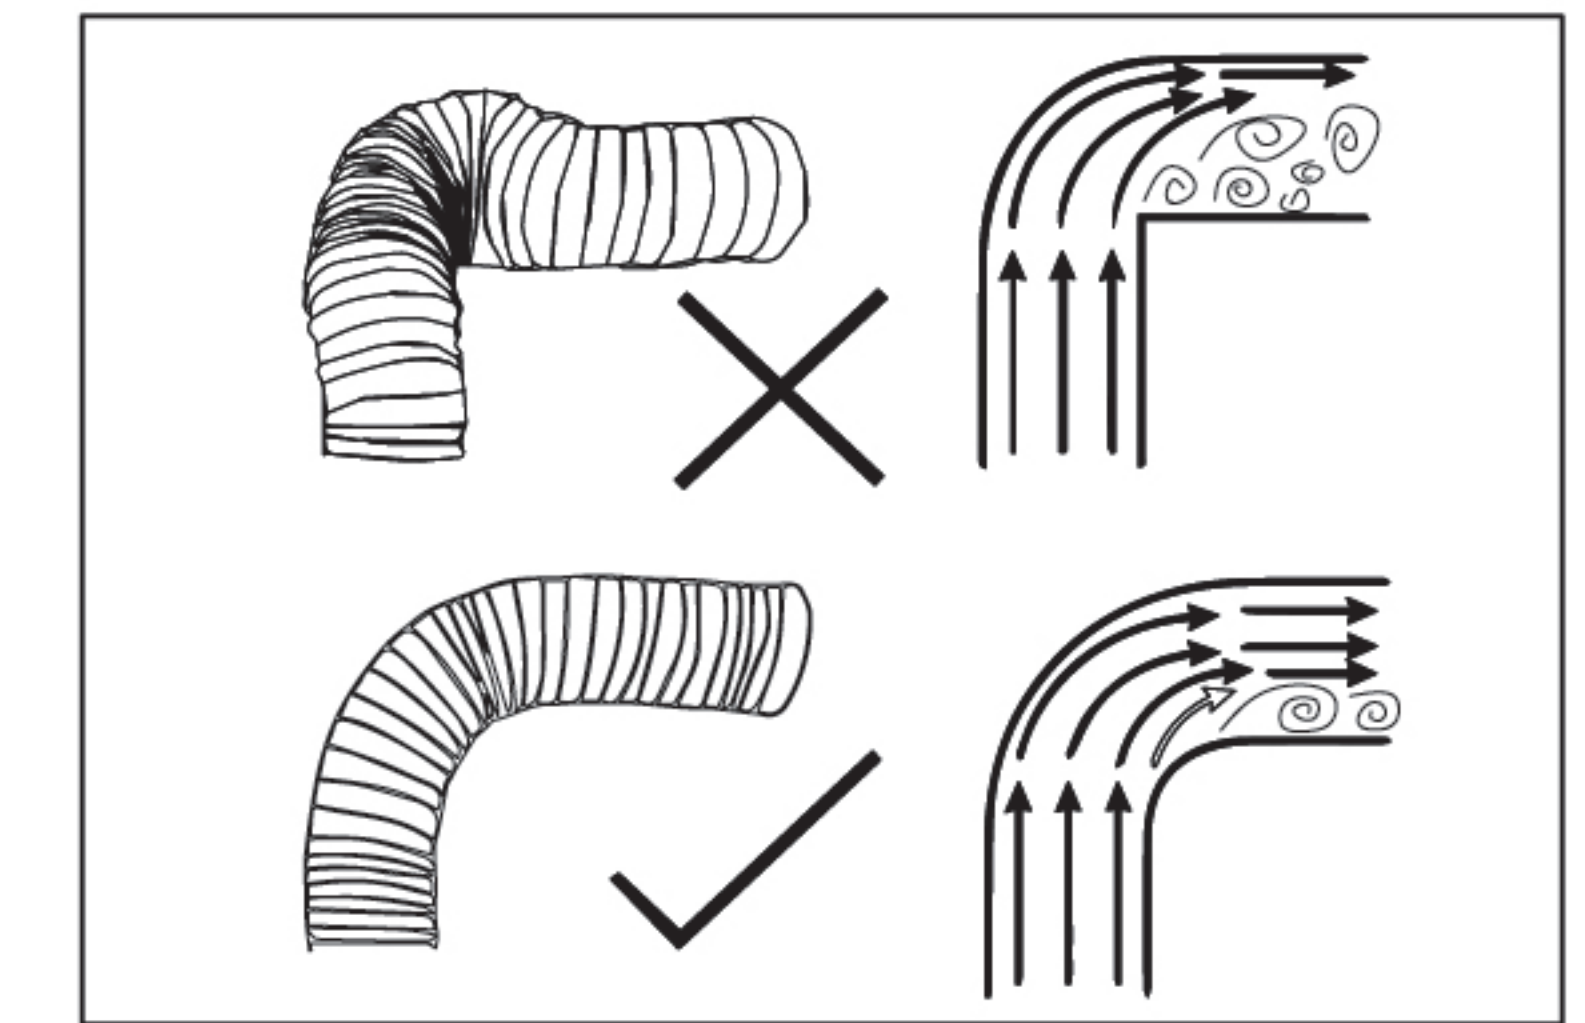

fig 5
5. Arrange the exhaust duct: the aluminum foil exhaust duct and the reserved smoke tube or wall hole shall be sealed tightly to prevent smoke leakage, the smoke tube shall be free from extrusion, deformation and small-angle elbow, the number of elbows shall not exceed 2, and the smoke tube shall be straightened and fixed. (fig5)